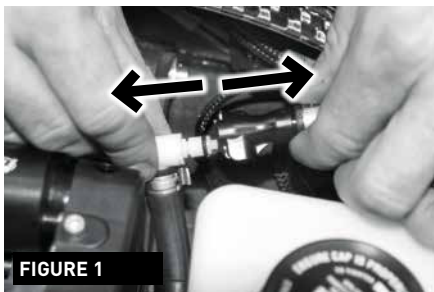

FIGURE 1
1) Disconnect the second CPC coupling connecting the tube coming out of the tank to the tube going to the injector – FIGURE 1. The CPC coupling has a security clip which must be pressed when disconnected.